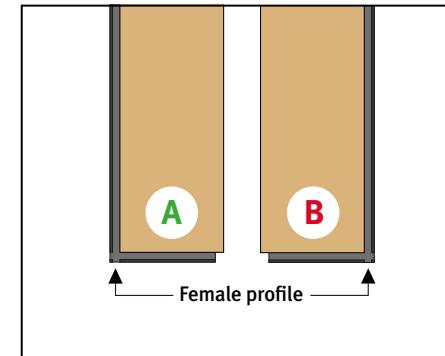

Figure 24
- The key to a successful floating Herringbone installation is to first form a number of triangles from A and B planks as shown below in (Fig 24) which fit along the longest wall to commence the installation.
- Contact **Polyflor Customer Technical Services Department (CTSD)** on +44 (0)161 767 1912 for further advice.
- A-planks can be identified by the lower female profile being on the Left-hand side; and the B-planks with the lower female profile on the Right-hand side (Fig 24).